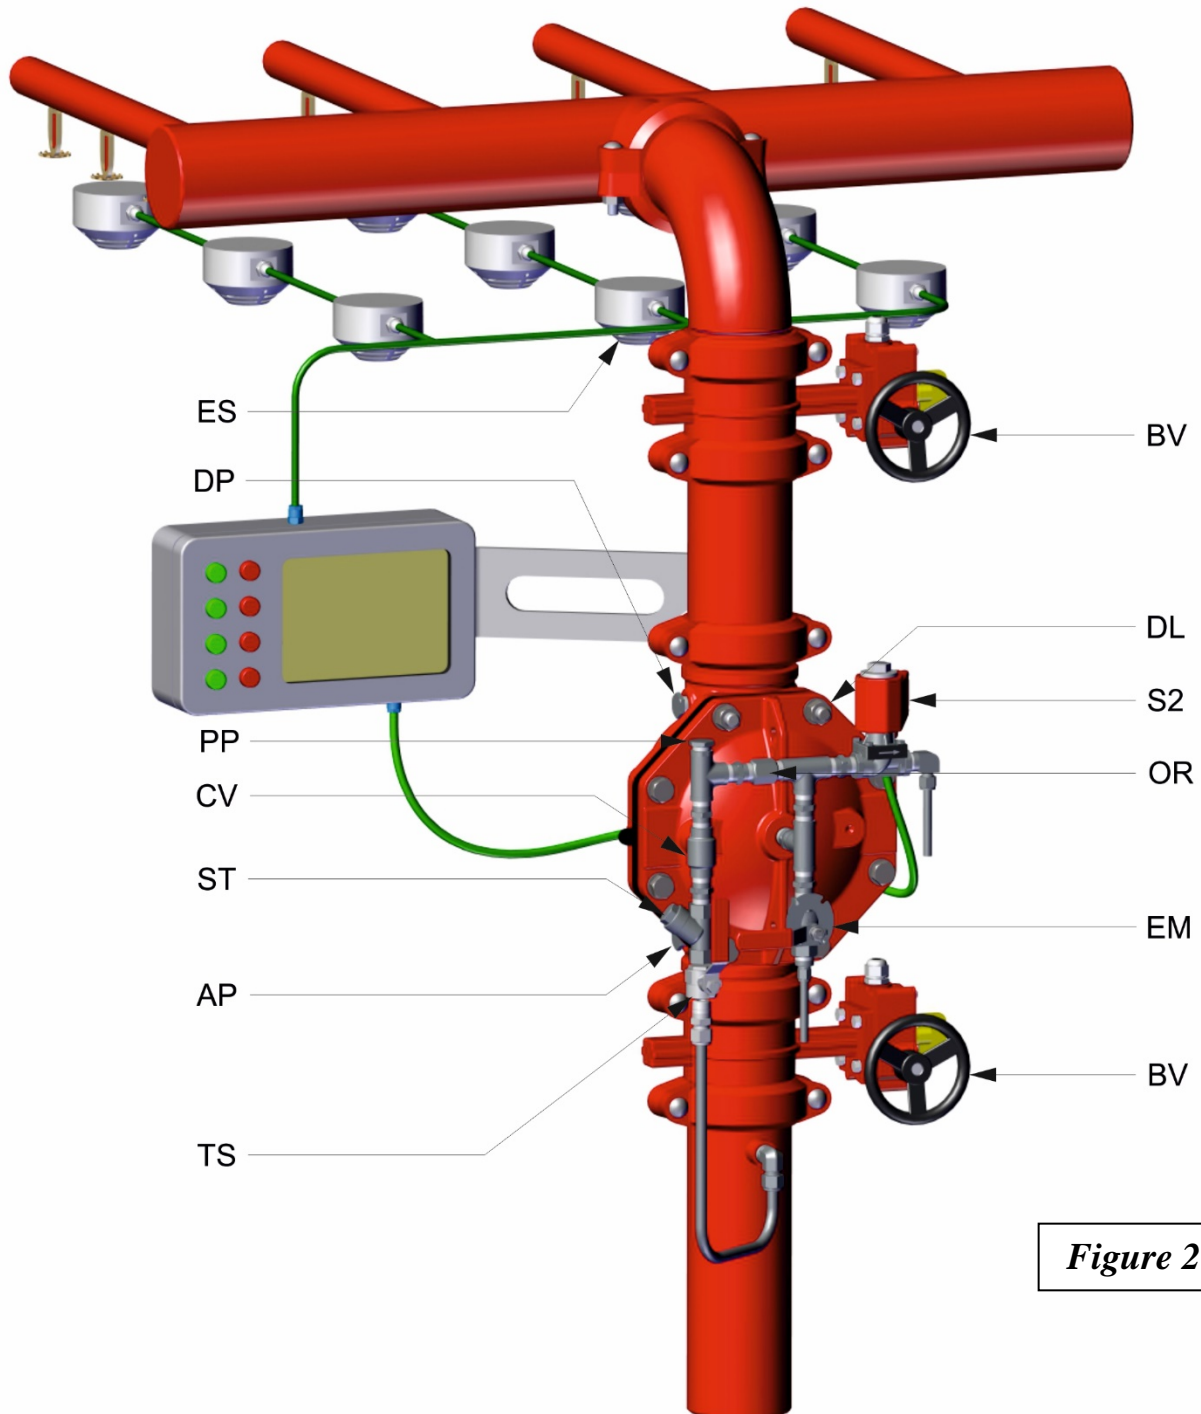

Figure 2
7. All connections to water supply, should be done in accordance with figure 2 page 5:
Commissioning the system - phase 1. (Reference Drawing - figure 2)
Commissioning the system - phase 2. (Reference Drawing - figure 2)
Commissioning the system - phase 3. (Reference Drawing - figure 2)
Maintenance (Reference Drawing - figure 2)